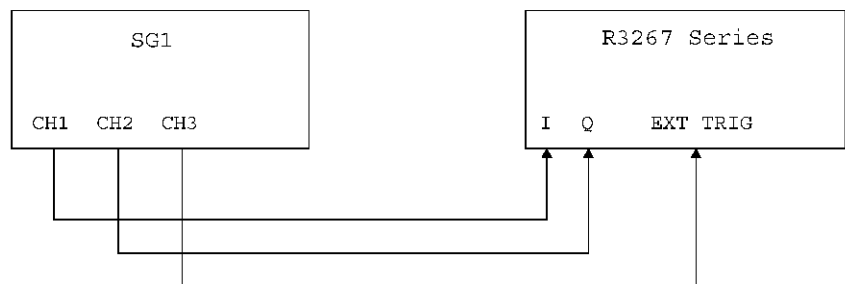

Figure 6-8 Setup for Baseband Signal Measurement (Reverse Link)
1. Connect the R3267 series equipment to the signal generator as shown in Figure 6-8.